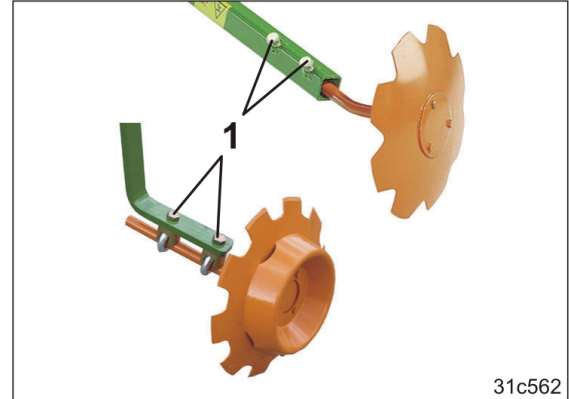

Fig. 170
- 4.3 Loosen 2 bolts (Fig. 170/1).
- 4.6 Tighten screws (Fig. 170/1).